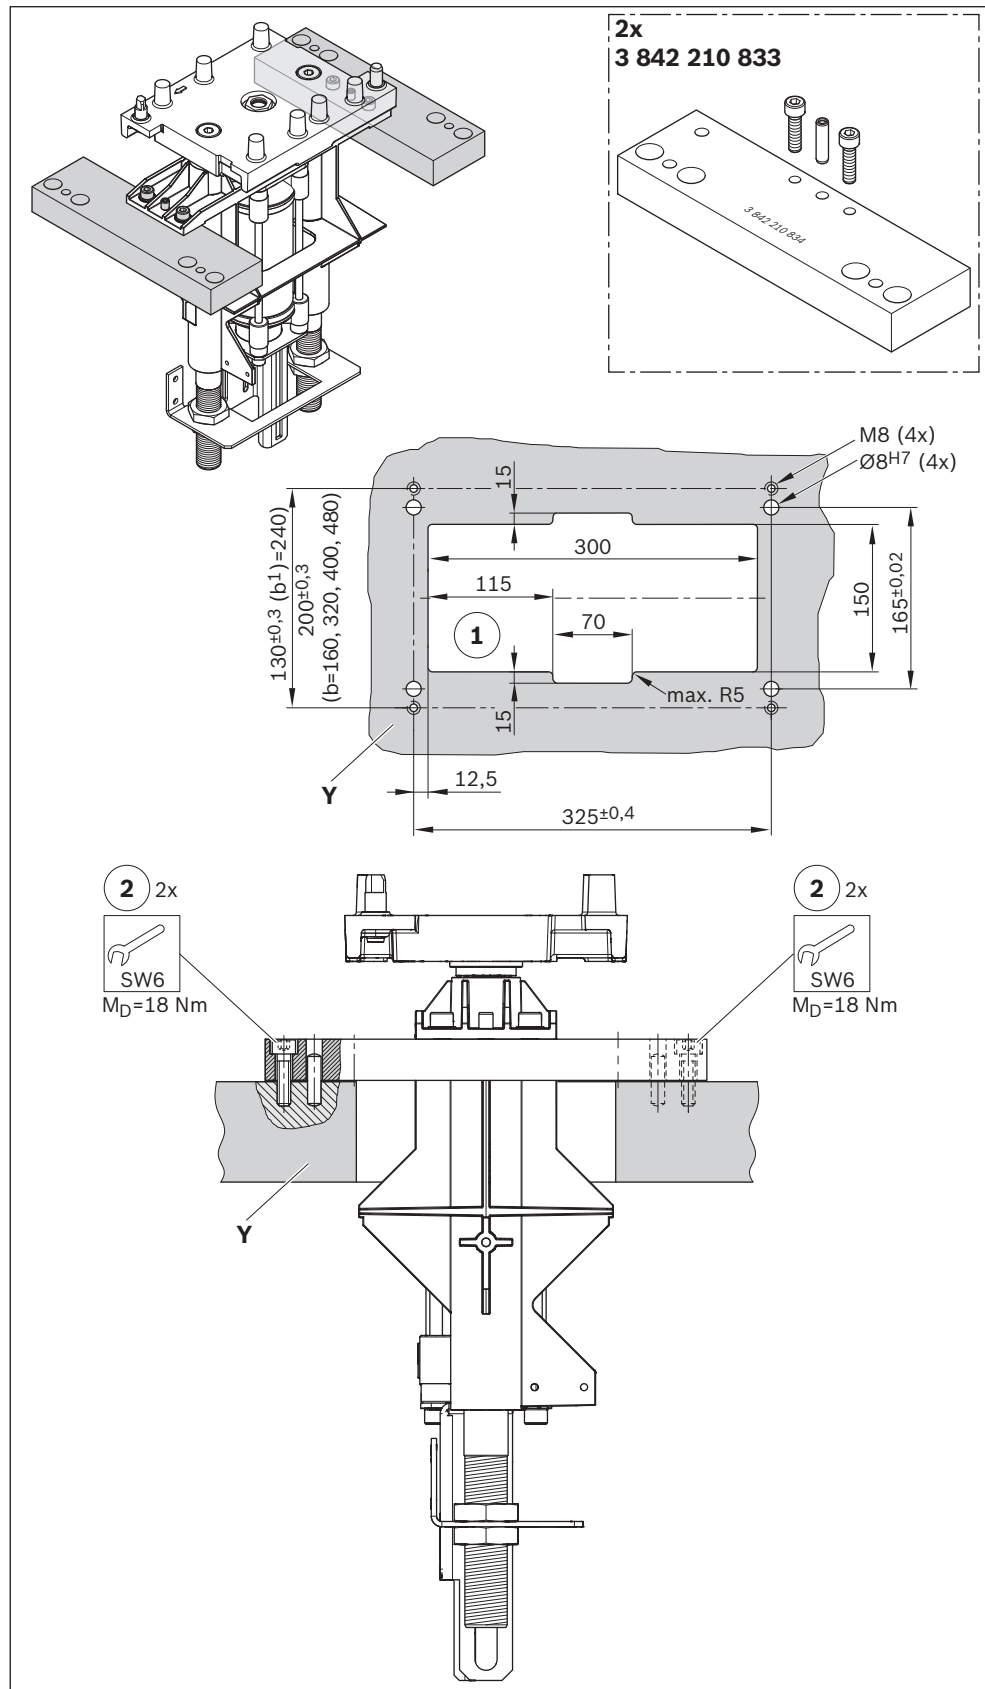

Fig. 7: Installing the HP 2 lift positioning unit in the table cut-out (AO = AT)
1. Manufacture the cut-out and the mounting holes for the HP 2 according to Fig. 7.